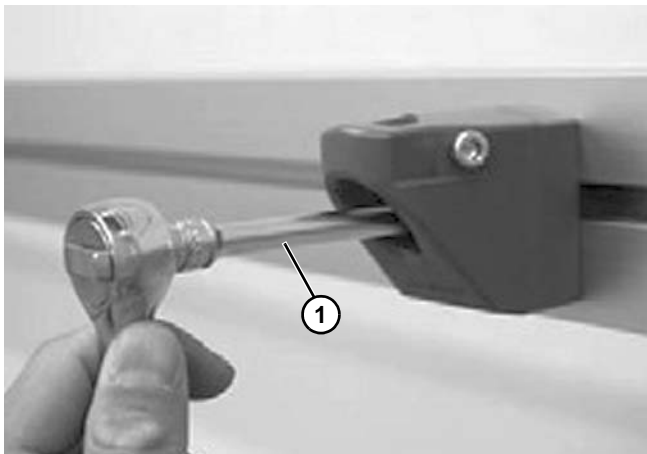

Figure 90
2. Attach the bracket onto conveyor beam and tighten with a socket wrench (Figure 90, item 1).